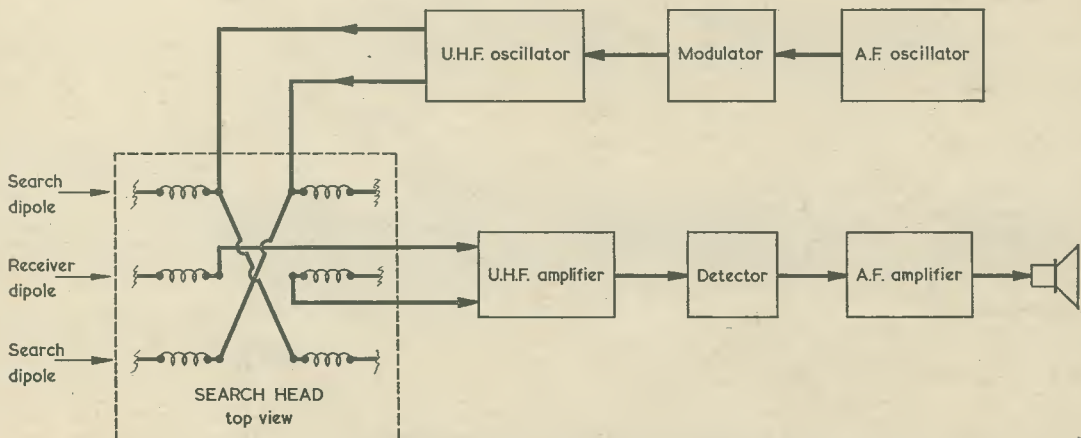

Fig. 8. A locator which uses a balanced field pattern around u.h.f. dipoles in the search head
U.H.F. balance locators also rely on the "field pattern change" principle of target location, but operate at ultra-high frequencies. The block diagram of the system is shown in Fig. 8. Here, the search head contains three inductively loaded dipole antennas, mounted side by side and spaced equal distances apart. The two outer (search) dipoles are energized from a common u.h.f. source that is audio modulated, but these dipoles are connected in anti-phase so that, in the absence of a target, their field patterns cancel out in the central receiver dipole. In the presence of a target, the balance of the field patterns are upset and a signal is induced into the receiver dipole. This signal is first fed to a u.h.f. amplifier and then on to a demodulator, and the resulting audio signal is passed on to the speaker (or to earphones) to give an audible indication of the presence of the target.